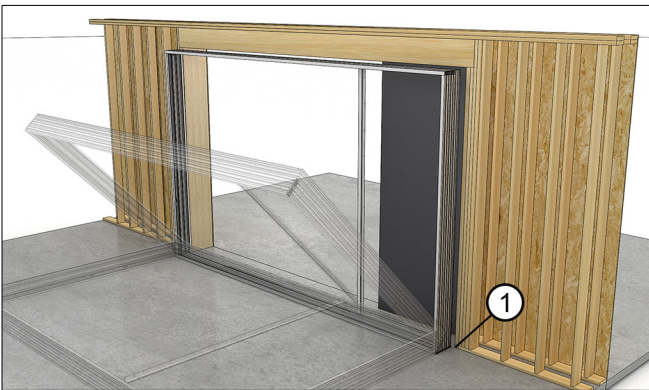

Figure 55
1. Stand the pocket frame upright from the inside and slide into the opening. See Figure 55.